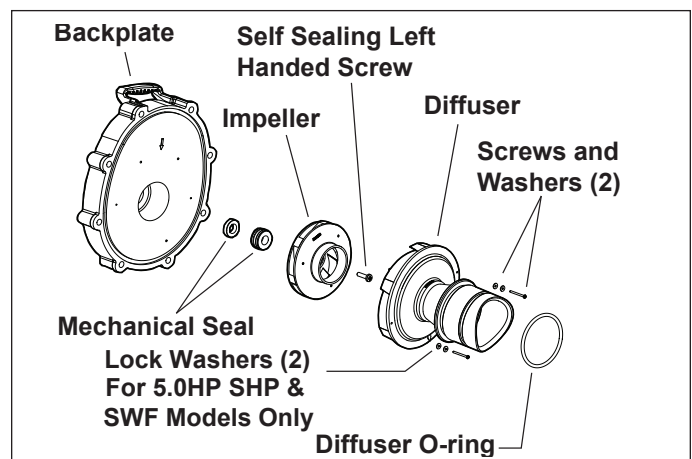

Figure 12. Backplate, Impeller, Diffuser, and Mechanical Seal Exploded View
5. Replace the two (2) small Phillips head screws. Tighten the screws to draw the diffuser against the motor backplate. For 5.0HP, SWF models only, use additional lock washers. See Figure 12.
NOTE Refer to Figure 12 for an illustration of the location of the mechanical seal and impeller.